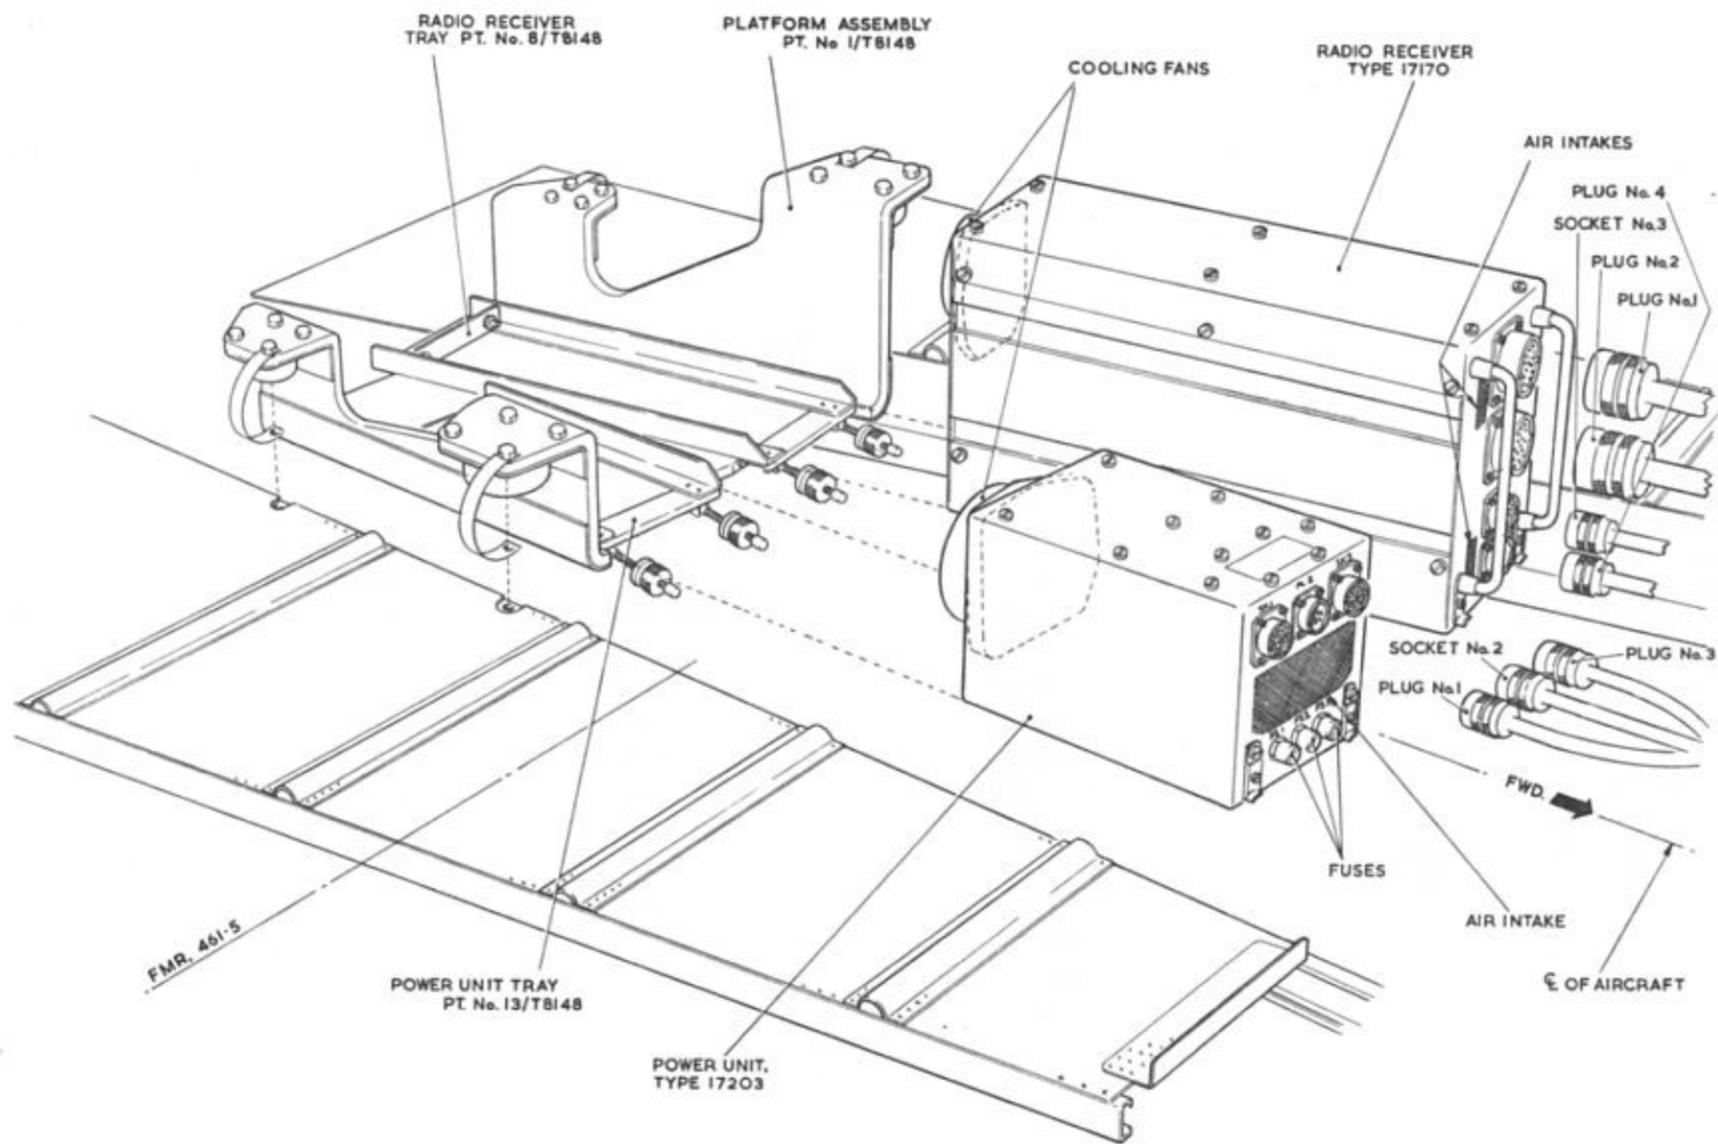

Fig. 3 Receiver and power unit details
6. The radio receiver is housed in a ½ ATR box and installed as illustrated in fig.3. A panel at the front of the unit carries the plugs and sockets used to link it to other units of the ARI. An internal cooling fan assembly is fitted. The radio receiver accepts the video outputs in each of the three bands from the two RF heads assemblies. The circuits of the radio receiver process the video inputs for display purposes.
- (1) Switching of power supplies.
- (2) Control of brilliance on panel illumination.
- (3) Control of brilliance of CRT and warning lamps.
- (4) Self test switching.
10. The power supply unit, installed as shown in fig.3 provides all the power supplies for operation of the ARI. Input power supplies are described in Sect.6, Chap.22 of this publication.